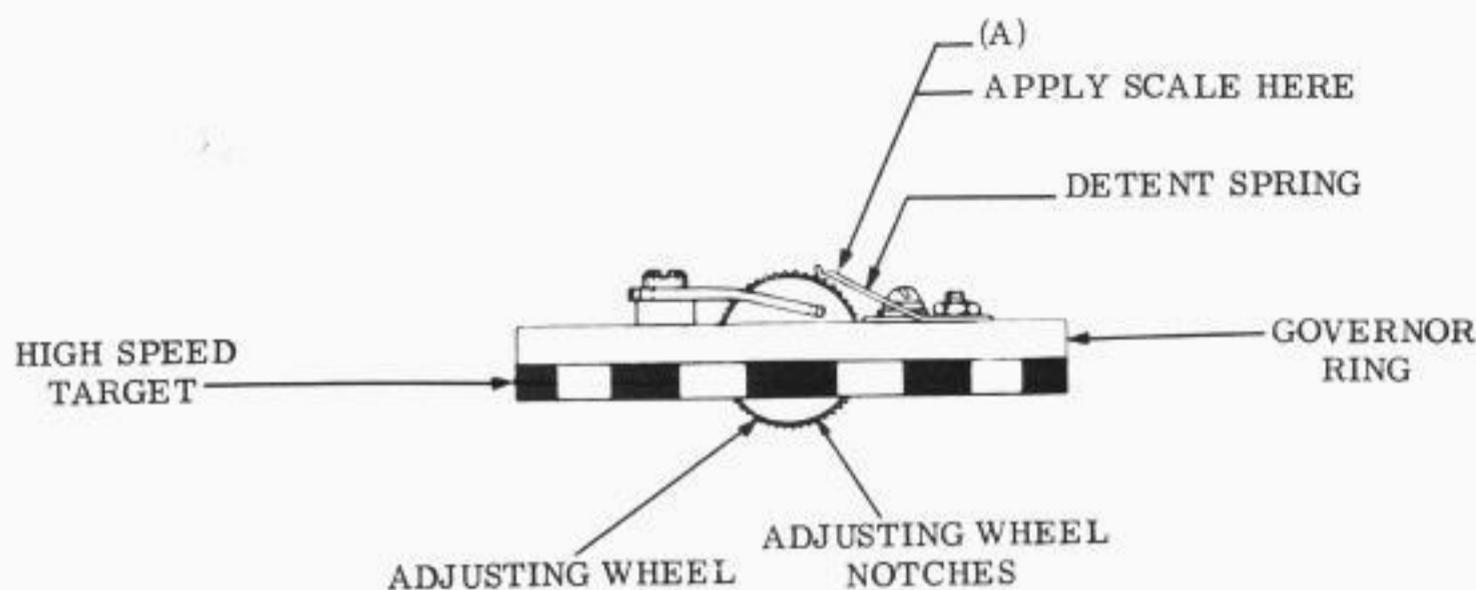

Figure 15 - Half of Two-speed, Edge-contacting Governor
(2) at the point of minimum pressure with a minimum 2-ounce, maximum 4-ounce pressure.
To Gauge the Pressure: With the detent spring resting between the notches on the adjusting wheel, hook the 8-ounce scale to the spring near the adjusting wheel as shown by (A) in Figure 15. With the scale in a horizontal position, pull at right angles to the spring. To determine the minimum pressure point, the check shall be made at three points approximately equally spaced around the periphery with the wheel in its final revolution at each end of its travel.
the detent spring as required. Position the spring on the wheel and tighten the screw and nut. (See Figure 15.)
held against the rings while the motor is in motion. To remove burned spots from the rings, a piece of 400A Aloxite held lightly against the rings while the motor is in motion, along with a KS-2423 cloth to immediately wipe off the cuttings and sand, may be used. (See Figure 15.)